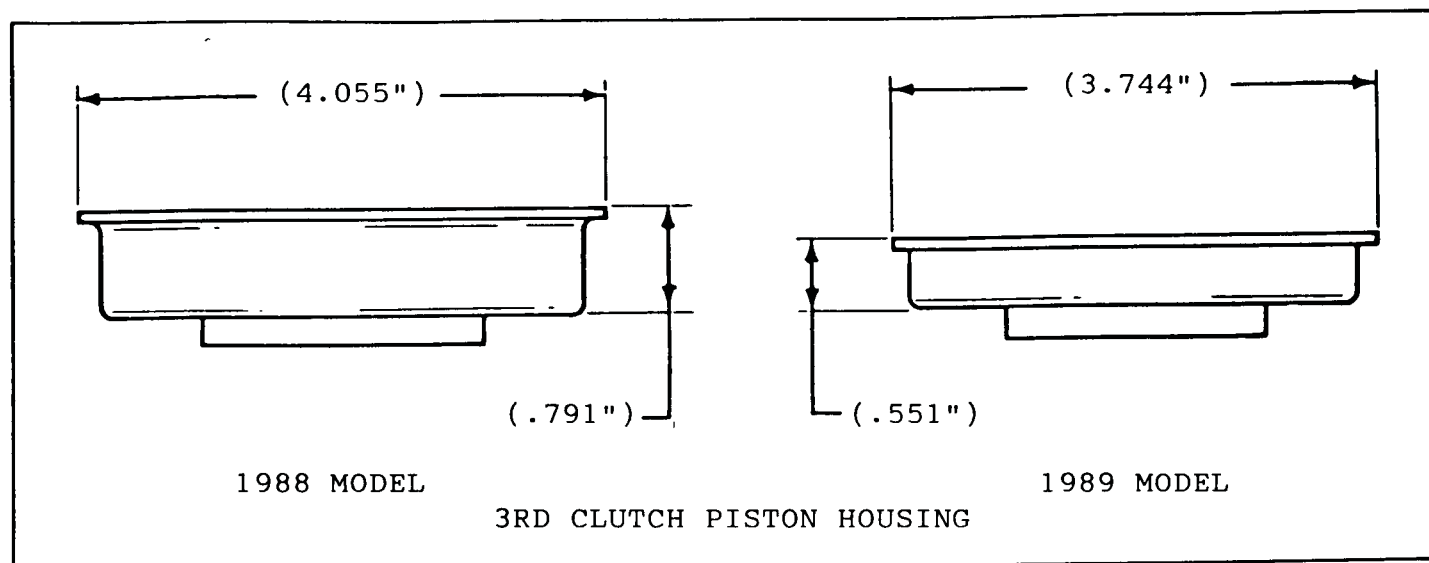

Figure 83
- (2) 3rd Clutch Piston Housing - Was decreased in overall size for calibration considerations (See Figure 83).